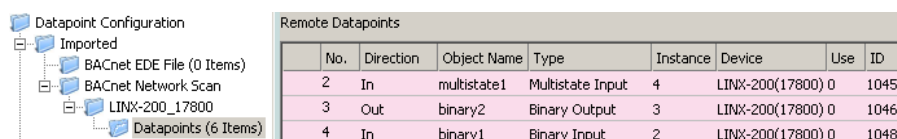

Figure 132: BACnet network scan results.
- Select a device in the device list and click the button **Scan Objects**. This scans the BACnet objects on the selected device and adds them to the **BACnet Network Scan** folder as a separate sub-folder for the device as shown in Figure 132.